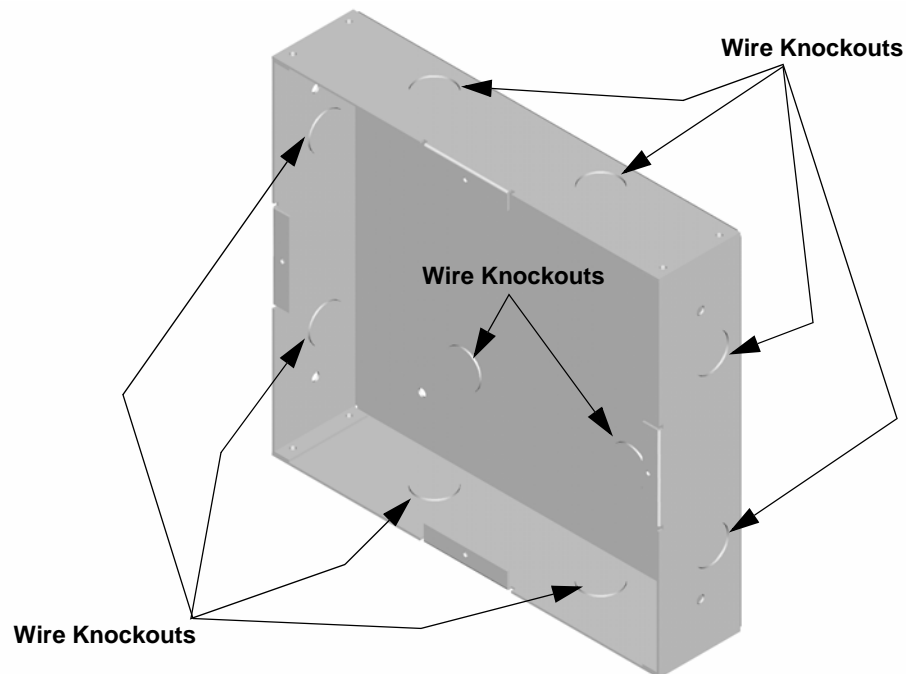

Figure 4-10 Back Box Knockout Locations
2. Remove knockout holes as needed for wires. See Figure 4-10 for backbox knockout locations
- Remove the desired knock out. See Figure 4-10.